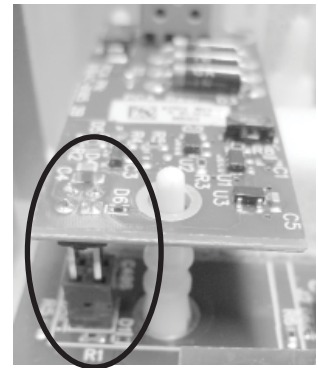

Figure 2 - Proper placement of the INPUT MODULE
- c. Carefully position the INPUT MODULE in place making sure the connectors are mated properly as shown in Figure 2